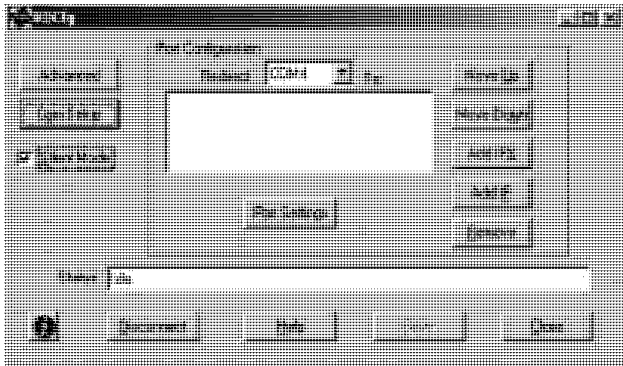

Figure 30: Silent Mode Checked in the RDCfg Window
4. To hide the pop-up window, check **Silent Mode** on the Com Port Redirector Configuration window (Figure 30).